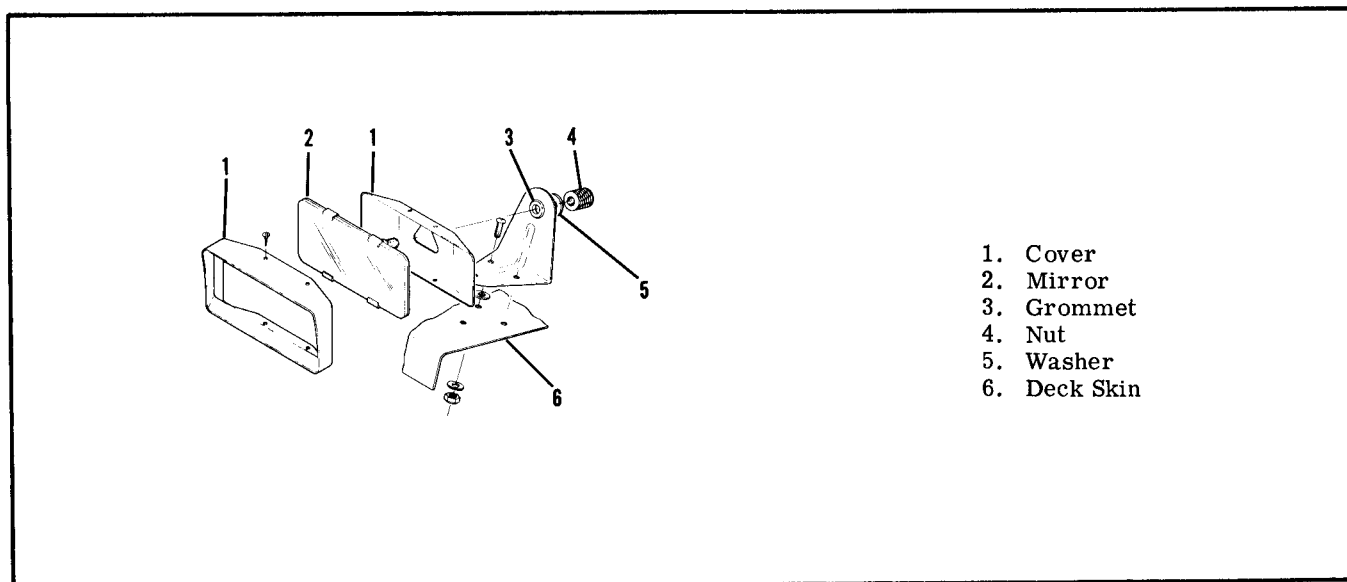

Figure 3-10. Rear View Mirror Installation
**3-56. REAR VIEW MIRROR.** A rear view mirror may be installed on the cowl deck above the instrument panel. Figure 3-10 illustrates details for rear view mirror installation.